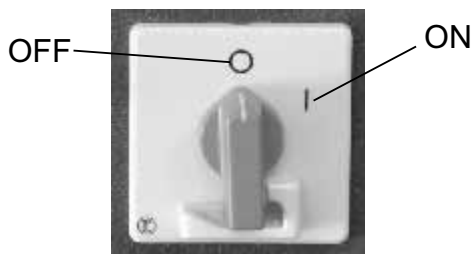

Figure 5. ON/OFF Switch
4. Turn the ON/OFF switch on (position 1). See Figure 5.